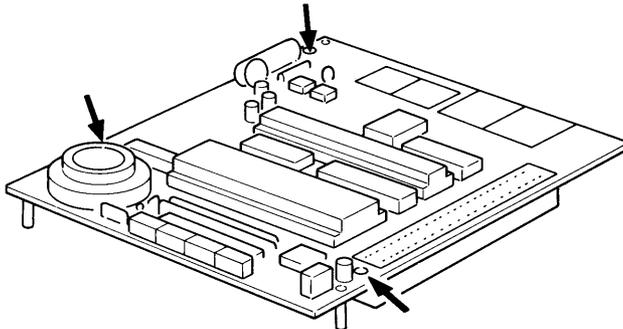

Figure 3. Modem Board and Stand-Offs
5. Packaged with the Modem Board are 3 nylon stand-offs used to help support the Modem Board. Insert the larger end of each stand-off into one of the holes on the Modem Board, as shown in Figure 3.